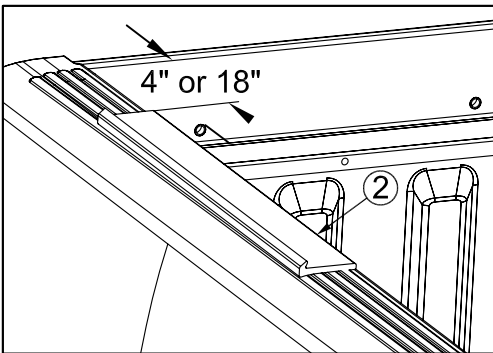

Fig. 2
2. Place rubber pads (#2) on bed rails. If vehicle has drop-in bed liner installed place pads 4" rearward of the truck bed header board. If vehicle does not have drop-in bedliner installed, place pads 18" rearward of header board. (See Fig. 2)